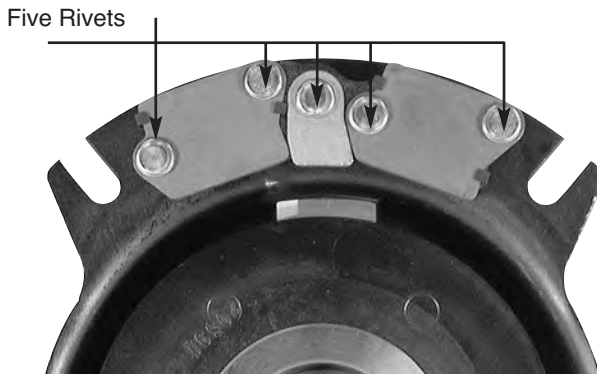

Figure 1
3. Use right angle grinder or suitable substitute to grind off 5 (five) rivet heads from brake pole pads. Do not grind on field shell side of rivets, unless rivets cannot be removed by grinding on the brake pole side of clutch. (See Figure 1)